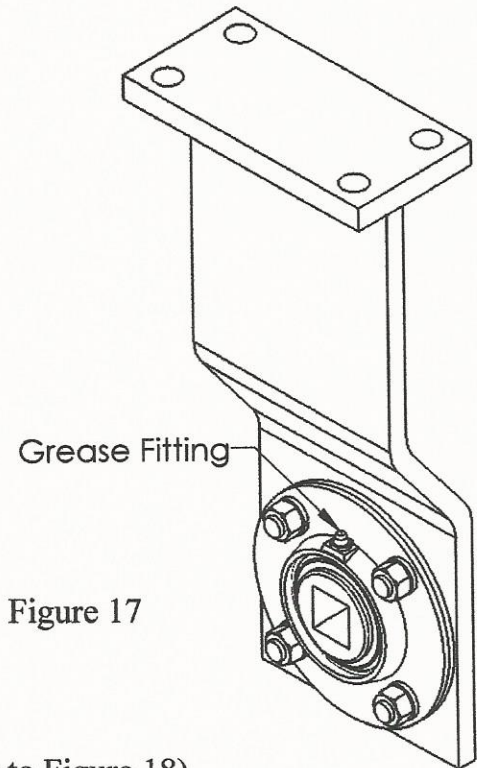

Figure 17
B) Disc Gang continued... (Refer to Figure 17)